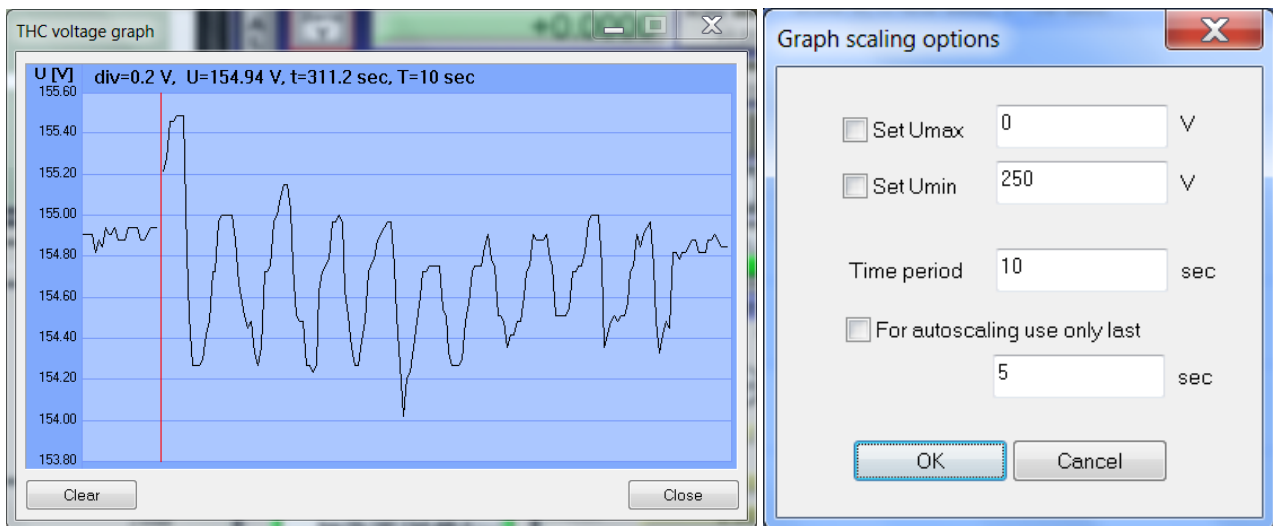

Figure 3.18 Arc voltage graph window and display options dialog
**Graph...** – button opens a window that shows arc voltage graph in real-time (Figure 3.18). This window can float above other windows and does not prevent usage of other Mach3 controls.